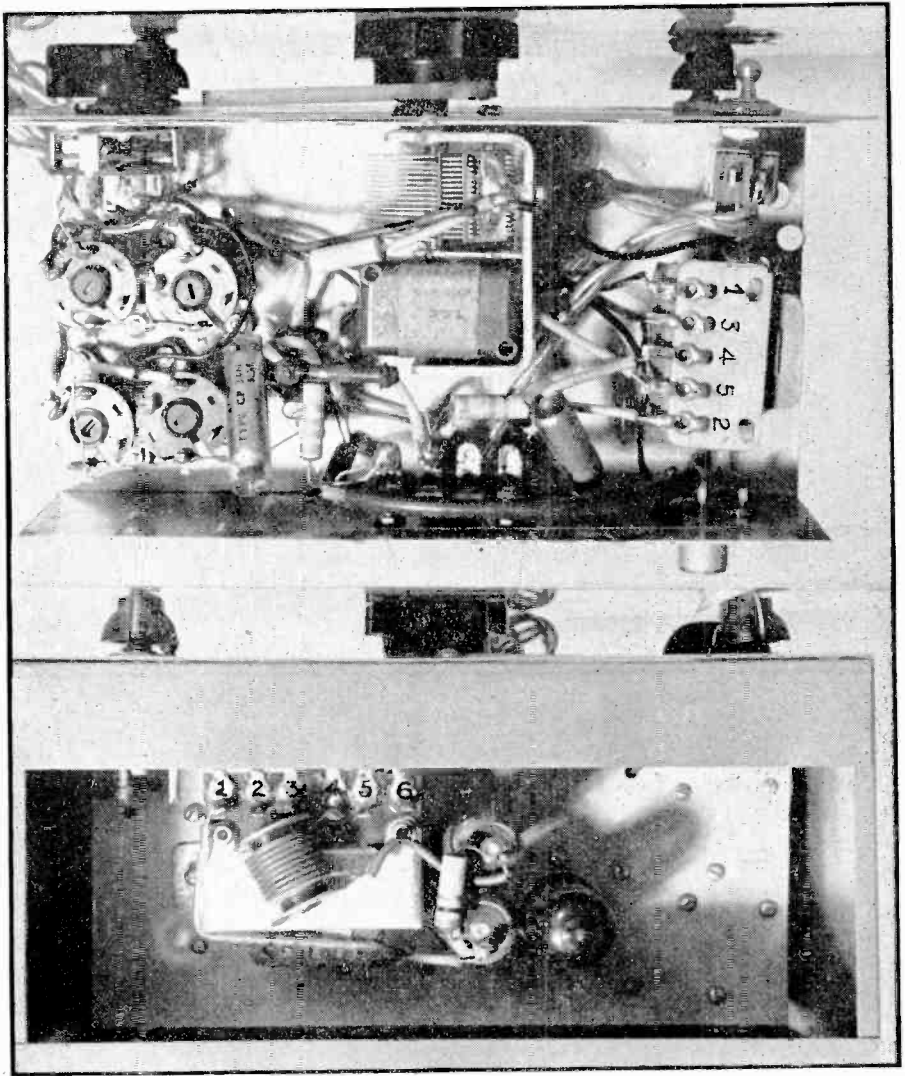

Fig. 6. Above, the underneath view of chassis; and below, view looking down on top
(6) The valveholder should now be screwed into position, first ascertaining that the earthing tag is fitted under one nut and that the orientation of the holder is correct. (See point-to-point wiring diagram, Fig. 6.) Next, the tag-strip, output socket—with earth tag fitted, intervalve transformer, coils and mains transformer (with earthing tag fitted above chassis), should be screwed into position. From Fig. 6 take particular note